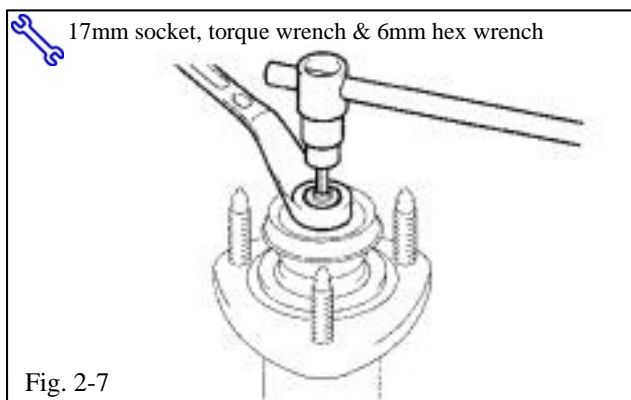

Fig. 2-7
- (j) Torque the new shock absorber shaft lock nut (Fig. 2-7).